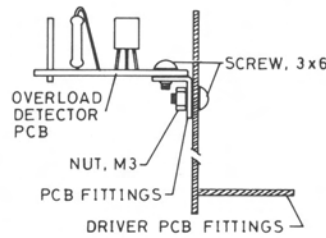

Fig. C-2
e) To attach the new Overload Detection PC Board to conventional units (with serial nos. up to NB83985) it is necessary to drill a hole in the Driver PC Board fitting plate. The following parts are necessary to attach the new PC board. See Fig. C-2 for mounting position.
- 2) Attach the Overload Detection PC Board to the Driver PC Board fitting plate as shown in Fig. C-2.